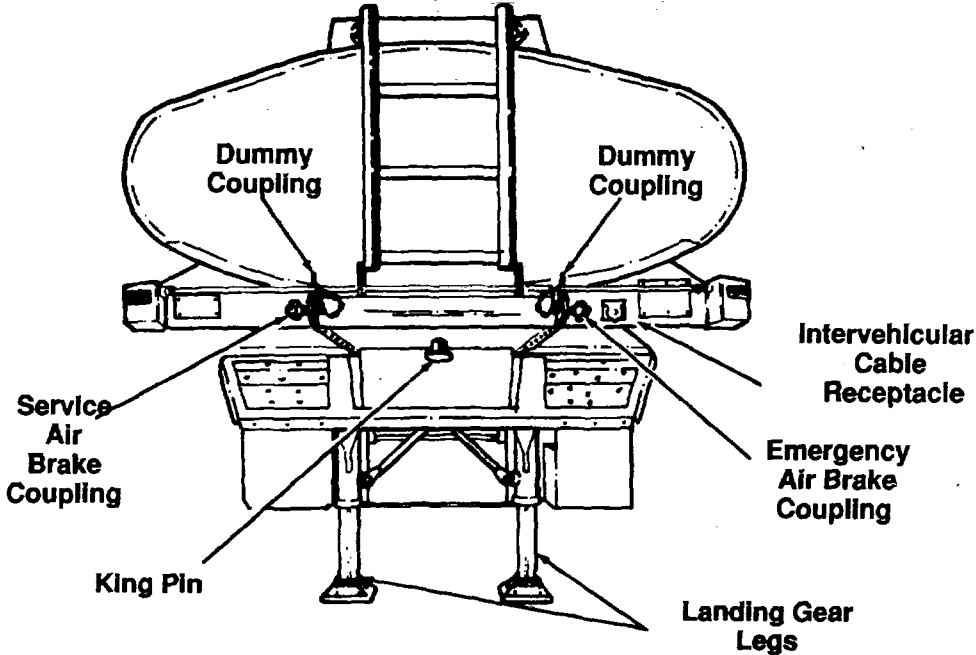

Figure 2-1. Connections Used in Coupling Semitrailer to Towing Vehicle
#### 2-3. Coupling Semitrailer to Towing Vehicle (Figs. 2-1 through 2-3)
*b.* Remove dummy couplings from the service air couplings and emergency air couplings, fig. 2-1. Couple the towing vehicle air line marked SERVICE, and the air line-marked EMERGENCY to the semitrailer coupling bearing a like tag.
- d. Plug the intervehicular cable into receptacle, fig. 2-1. Operate lights from towing vehicle to make sure that all semitrailer lights are working properly.
- b. Close shut-off valves on the service and emergency air lines at the rear of the towing vehicle. Uncouple the two air brake hoses from the air brake hose couplings on the semitrailer, fig. 2-1. The semitrailer brakes will set automatically when the emergency air
c. Disconnect intervehicular cable from receptacle on semitrailer, fig. 2-1.